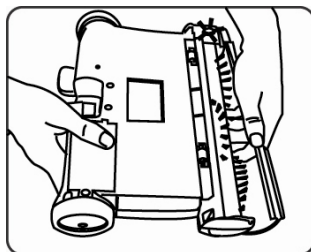

Fig. 11
1. Remove the brush cover. (Fig. 11)
11. Replace the brush cover. (Fig. 11)
4. Periodically remove the transparent brush cover on the front of the cordless sweeper and remove any build up of lint, hair or fiber on the rotating brush. To remove the cover - grip the cover from the bottom, pull out and upward until the cover unlocks from the side slots and tabs located on the top of the sweeper. Carefully cut away threads or hair with scissors. (Fig. 11)